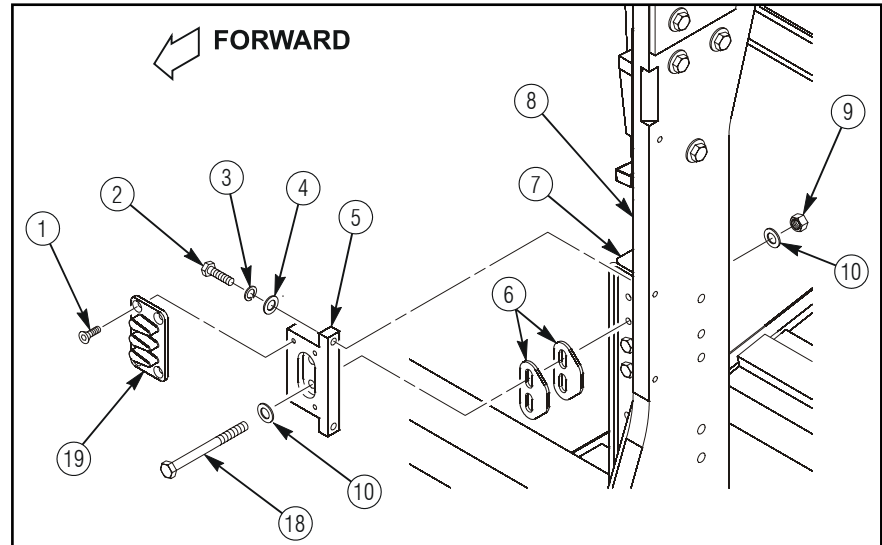

Figure 15b.
28. Install 6435228-01M1 front door guide mount (5) on vehicle B-pillar (7) with two existing shims (6) (use additional 4668621-002 shims as required), two 4397000-052 capscrews (18), four 4397005-013 washers (10), and two 4397064-003 locknuts (9) as shown in figure 15b. Do not tighten locknuts (9) at this time.
29. Secure front door guide mount (5) to left B-pillar plate (8) with two 4397000-039 capscrews (2), 4397004-007 lockwashers (3), and 4397005-012 washers (4) as shown in figure 15b. Tighten capscrews (2) and locknuts (9) to 21 lb-ft (28.5 N·m).
30. Apply 8030-01-025-1692 sealing compound to threads of four 4397031-089 flat socket head screws (1). Refer to figure 15b.
31. Install 6437133-01M1 male door guide (19) on front door guide mount (5) with four 4397031-089 flat socket head screws (1) as shown in figure 15b. Tighten screws (1) to 10 lb-ft (13.6 N·m).